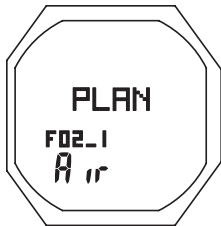

Fig. 31A - PLAN LEAD-IN
**Plan Lead-in**, information includes (Fig. 31A/B):